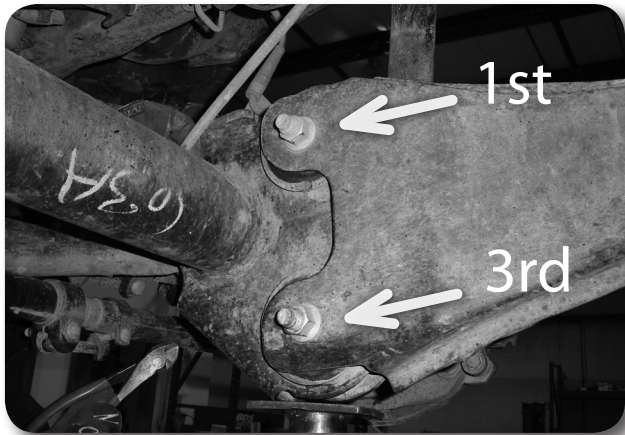

Figure 12
24. Locate and loosen the 4 radius arm mounting bolts at the axle. **Figure 12** Once again make sure that the axle is well supported by a jack.
25. Starting with the passenger's side, 1st remove the upper radius arm mounting bolt at the axle. 2nd, remove the radius arm bolt at the frame and lower the radius arm from the frame bracket. 3rd, remove the lower mounting bolt at the axle and remove the radius arm from the vehicle. **Figure 12 & 13** Save hardware.